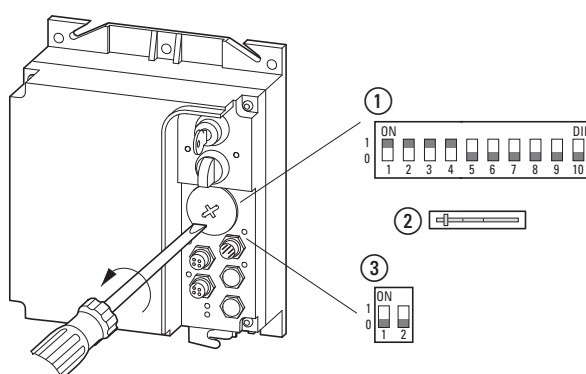

Figure 83: DIP switches underneath screw plug
Red	Fault message: A fault has been detected and is permanently active. <ul style="list-style-type: none"> Motor overload (overcurrent) → Check motor and drive unit (reset when motor has cooled) → Short circuit in motor cable → Check DIP switch (DIP 1- DIP 4) Thermistor/cable monitoring → Check motor and drive unit (reset when motor has cooled down) → No motor cable connected (motor outgoer socket) → Jumper T1/T2 in motor terminal box missing on motors without temperature sensor → Wire jumper (②, Figure 83, page 103) not closed with motor cable disconnected (→ for servicing only) DIP switch (under screw plug) with invalid settings (→ Page 104) Overload/short circuit on sensor inputs I3/I4 or actuator output O3 Current lower limit undershot (→ Page 107) On a temporary or rectified fault this LED flashes until the Reset → Page 107 command is issued (key switch).
To do this (i.e., to disable the quick stop function), DIP switch 1 on the left of section ③ in → Figure 83, page 103 must be ON.